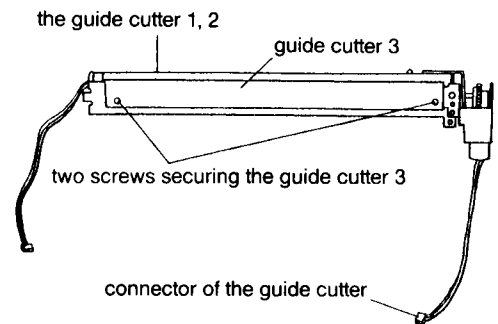

FIGURE 6-15
- Remove three screws securing the black guide cutter (three pieces) from the cutter unit. (See figure 6-15)